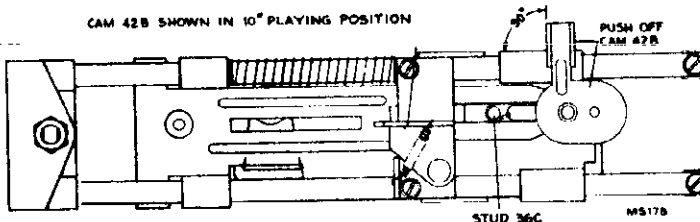

FIG. 10
1. With the mechanism out of cycle, turn the push-off cam to such a position, so that the arm makes a 90° angle with the slide bars as shown in fig. 10. Make certain the large radius side of cam is toward the stud 36C when the support post is in the 12-inch position.